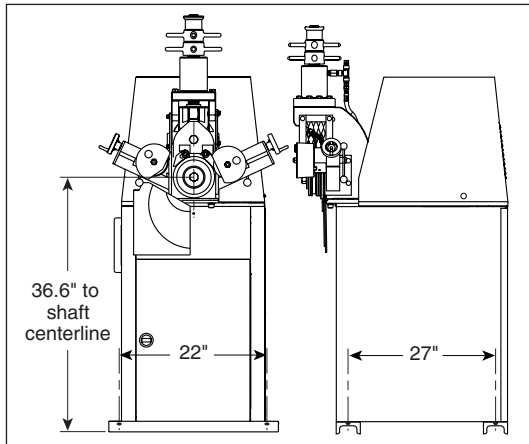

Figure 1
4. Once the tool is located, it must be leveled and securely anchored (refer to Figure 1 below). **NOTE:** An uneven tool can severely affect proper grooving operations.